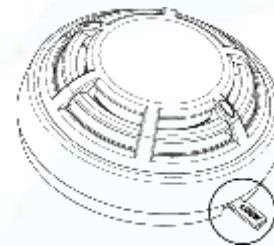

Fig.5
- To unlock the sounder, place the switch all the way to the specified position (Fig. 5) and turn the sounder body clockwise;